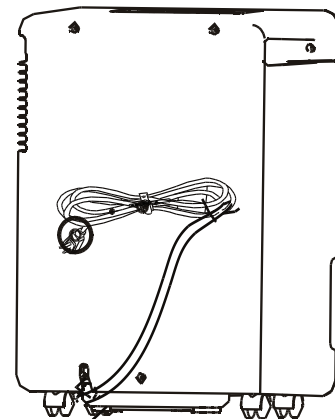

Fig. 12
- Wrap the cord and bundle it with the band on the unit (Fig. 12).